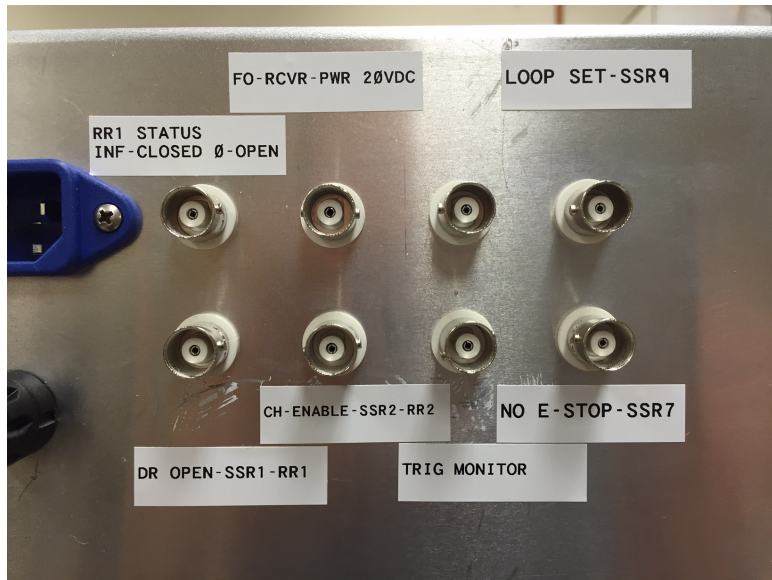

Figure 4: Connectors - Front
6.1.13 Use multimeter to measure the resistance on BNC connector "RR1 Status" (see Figure 4).